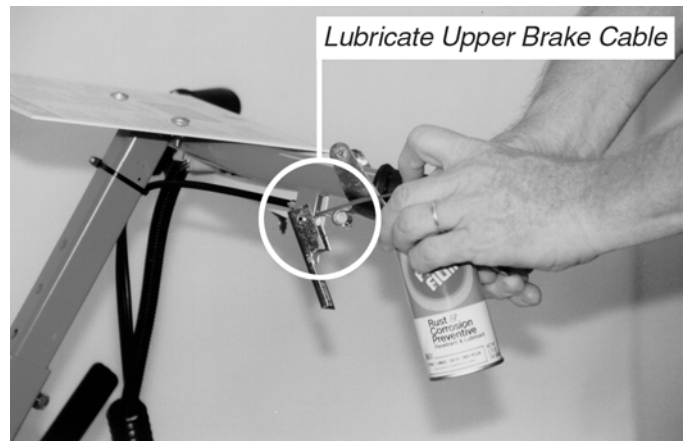

Figure 24
3. Lubricate the upper brake cable with FLUID FILM™ or similar lubricant (Figure 24).